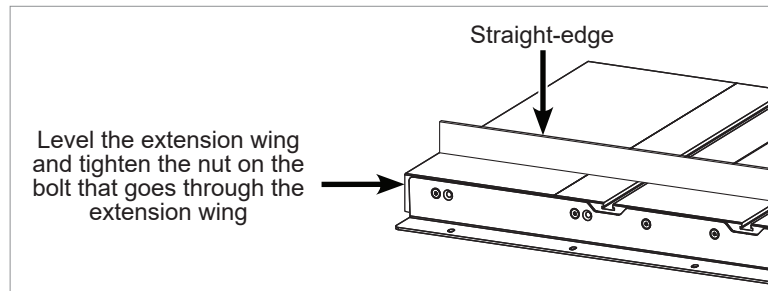

Fig. 8
6. Use a straight-edge to level the front edge of the left extension wing to the cast iron table top (**See Fig. 8**). You may have to pull up or push down on the outer edge of the extension wing to level it. Once the front edge of the left extension wing is level, use a 5 mm hex key and a 13 mm wrench to fully tighten the nut on the bolt that mounts the left extension wing to the front rail. Repeat this process to level the front edge of the right extension wing and the rear edges of the left and right extension wings.